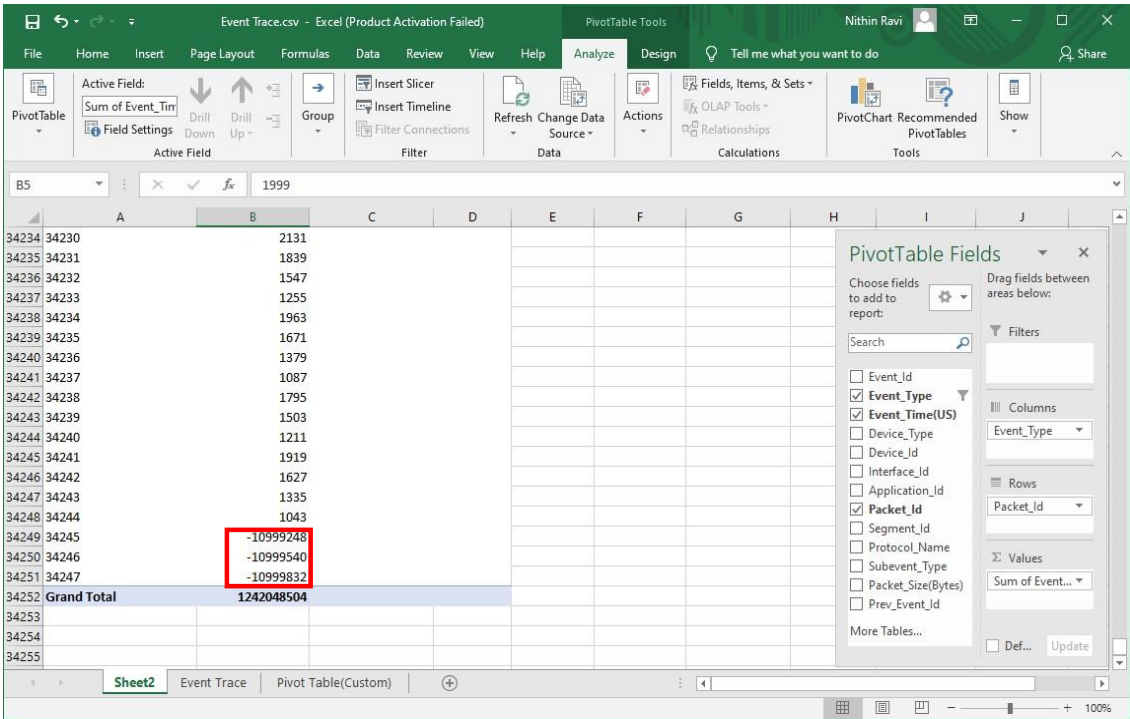

Figure 1-14: Ignore the negative values in the Delay
10. Now ignore the negative readings in the Delay values (Figure 1-14) obtained and use these values to plot the Delay vs Time (APPLICATION_IN) graph.